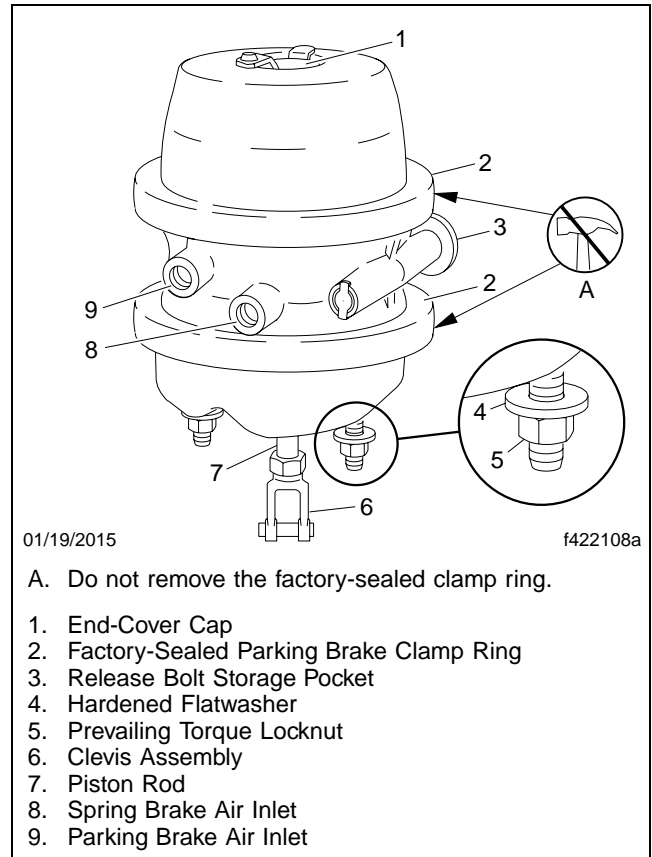

Fig. 3, Haldex Life Seal Brake Chamber
4. Refer to **Fig. 3** for brake chamber parts identification. Manually release the parking brake (cage the power spring).